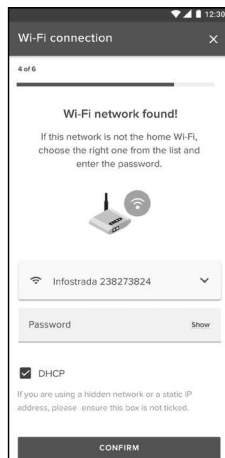

FIG. 7
1. Stick the double-sided tape to the back of the support plate (Figure 7); remove the protective film and attach it to the boiler;
The app will suggest the Wi-Fi network and will ask the user to enter the password. If the network is incorrect, click on the name of the network and choose the correct network from the list. Enter the password and continue (FIG. 7).